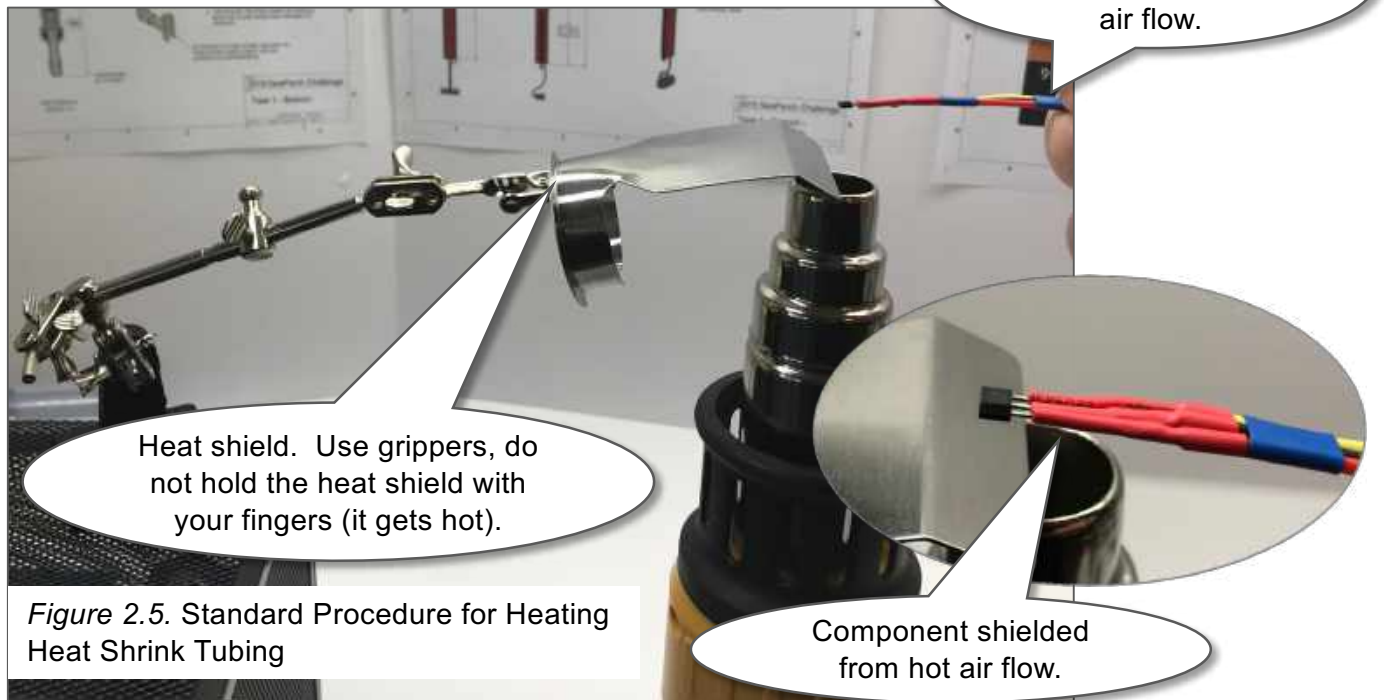

Figure 2.5. Standard Procedure for Heating Heat Shrink Tubing
7. Install heat shrink tubing and test Hall Effect Sensor. See *Figure 2.5*. Standard Procedure for Heating Heat Shrink Tubing.